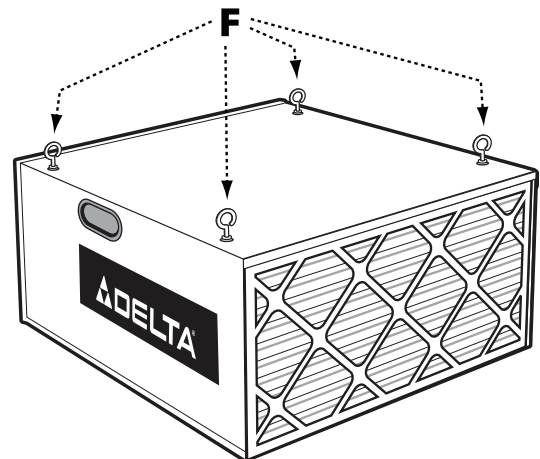

FIG. 6
4. Thread the eye-bolts (F) Fig. 6 into the four holes where the screws were removed in STEP 2.